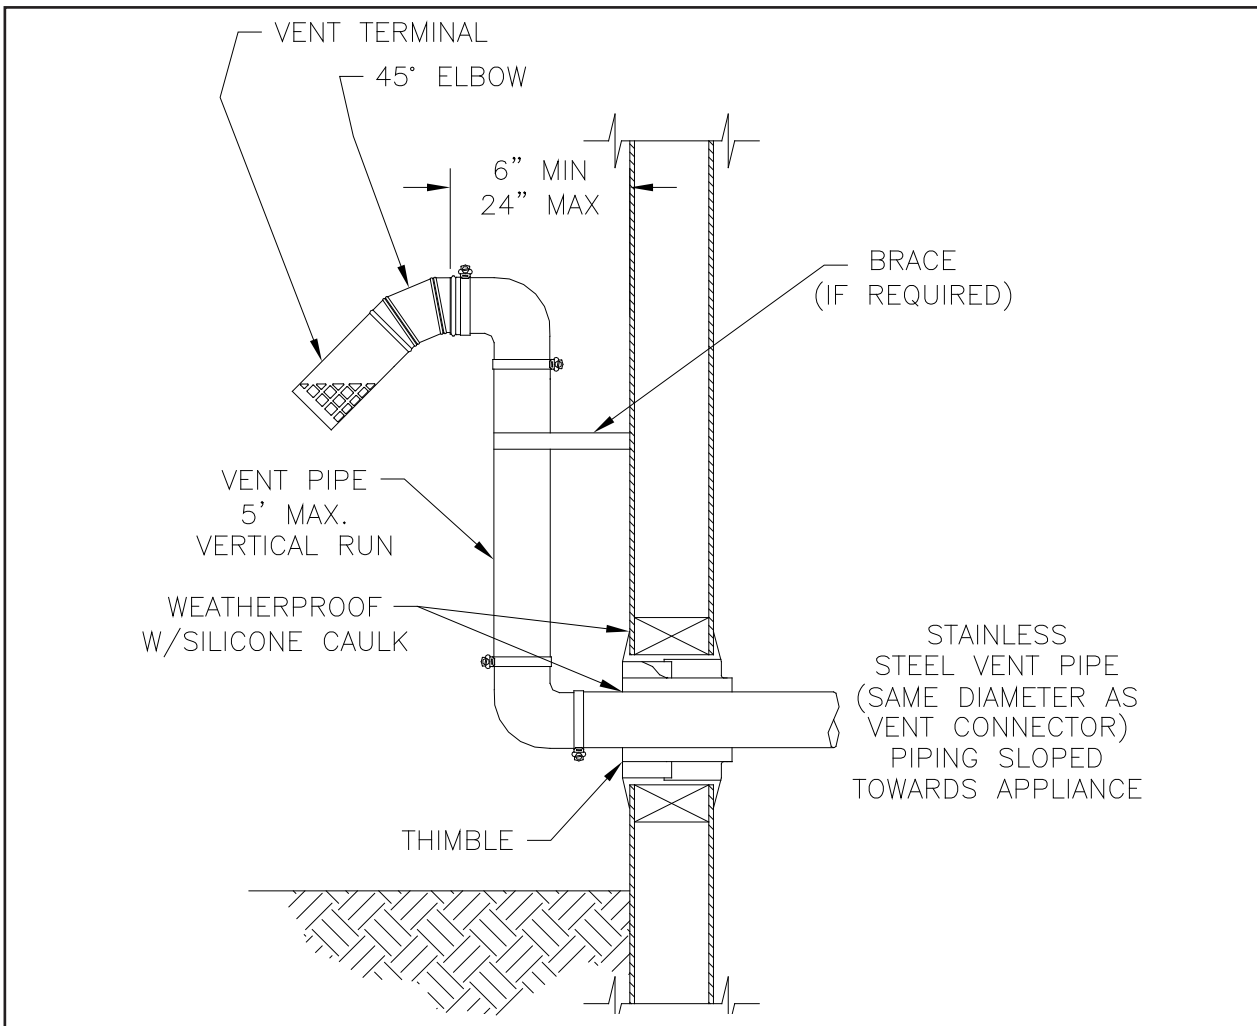

Figure 6: Optional Indoor Air – Vent Terminal Installation
E. Optional Separate Horizontal Vent Terminal Mounting – See Figure 6
2. This installation will allow a maximum of five (5) feet vertical exterior run of the vent/air intake piping to be installed on separate horizontal venting and indoor air horizontal venting.
- c. Install maximum of five (5) feet of vent pipe. Refer to Sections C through E for proper procedures for joining vent pipe and fittings.